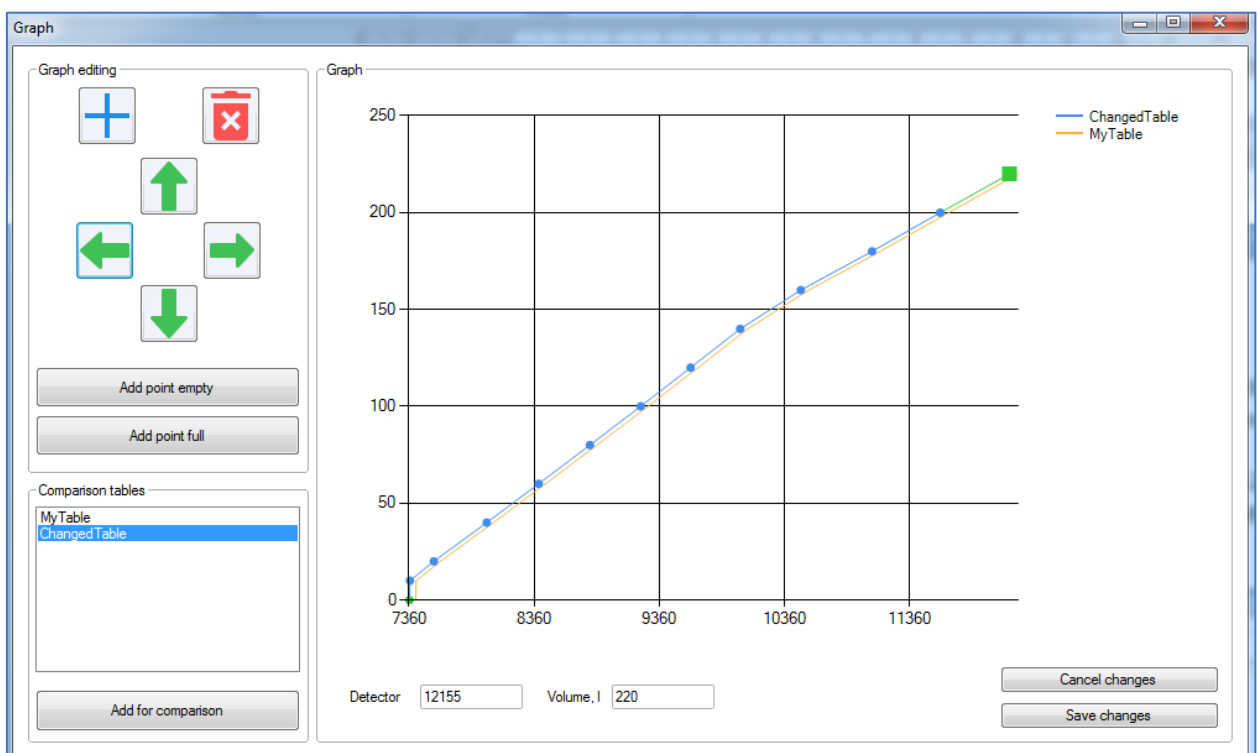

fig. 6.20. Stretching graph horizontally
- select the upper point of the graph and shift it to the value 12155 (fig. 6.20). You can see that shifting the extreme points reshapes the whole graph (the original table is displayed in orange, the modified one – in blue);